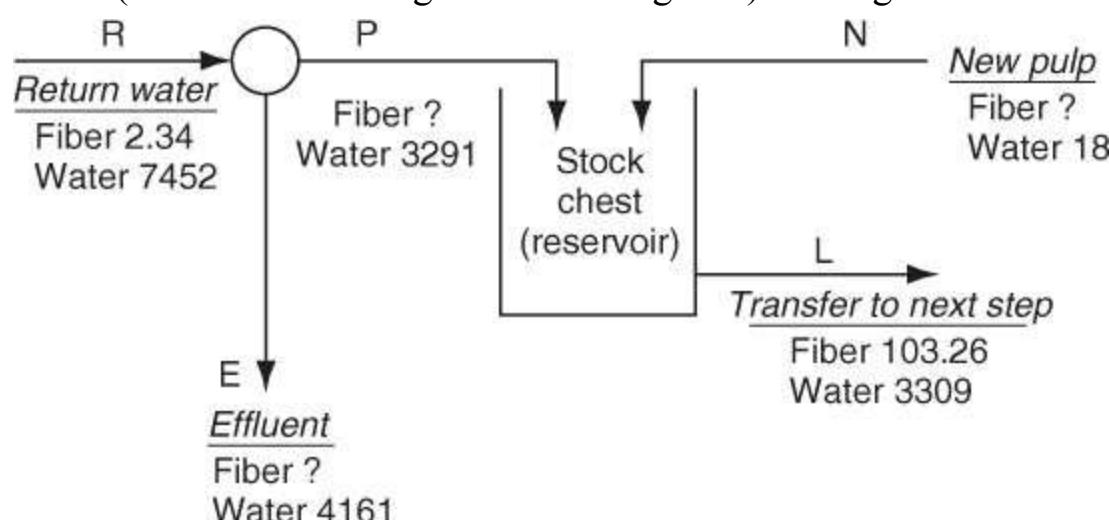

Figure P6.2.4
**6.2.4. In a tissue paper machine (Figure P6.2.4), stream N contains 85% fiber. Find the unknown fiber values (all values in the figure are in kilograms) in kilograms for each stream.